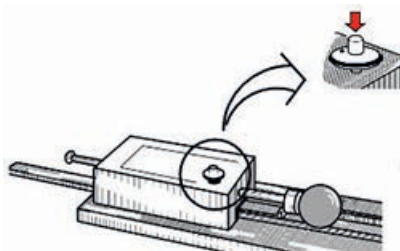

Fig.3
4. Set ball in front of the launcher rod head (see Fig. 3).